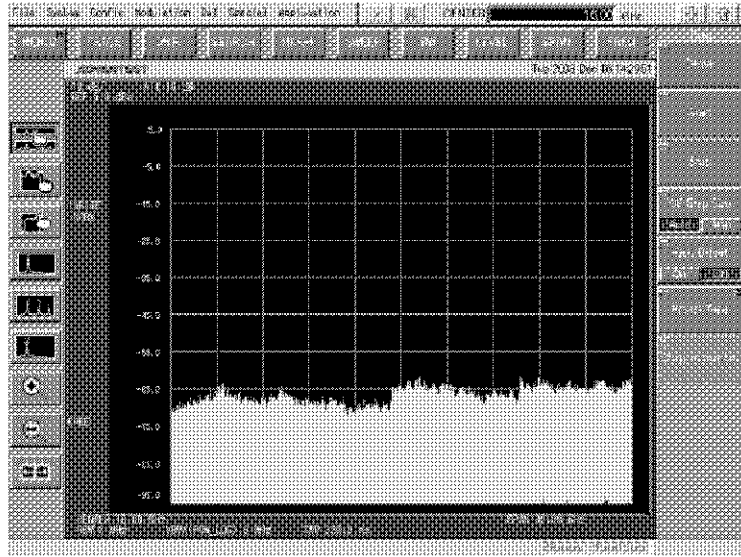

Figure 3-9 Initial Setup Screen
5. The initial screen shown in Figure 3-9 is displayed unless this instrument is tested faulty. The initial screen may give a different look from Figure 3-9, depending on the settings in effect the last time this instrument was powered off.